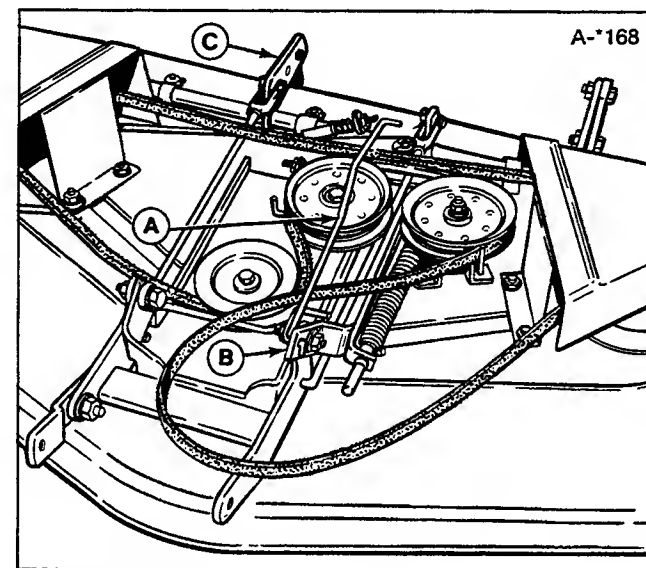
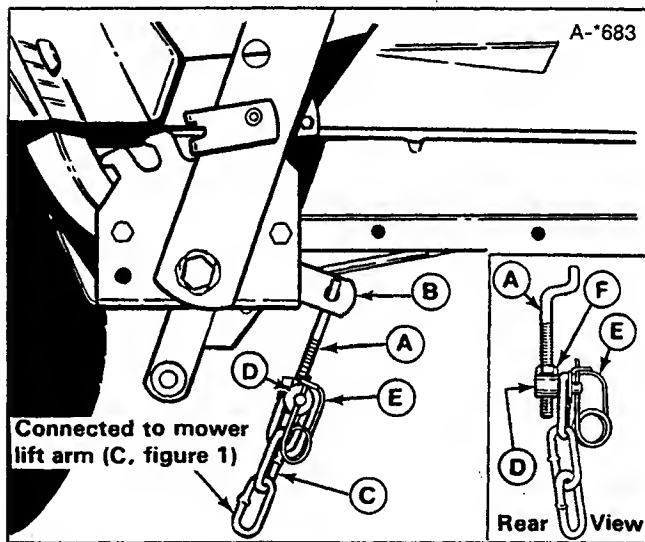

Figure 1. PTO Rod
Figure 2. Lift Chain
2. Notice that one end of the PTO rod (A, figure 1) does not have a drilled hole. Insert this end into the mower PTO arm (B) and work around until rod (A) appears as in figure 1.
5. Slide the mower under the tractor so that the mower lift arm (C, figure 1) is under the tractor lift arm (B, figure 2).
6. Connect the chain (C, figure 2) to the trunnion (D) with clip (E). For electric lift, use only three links of chain.